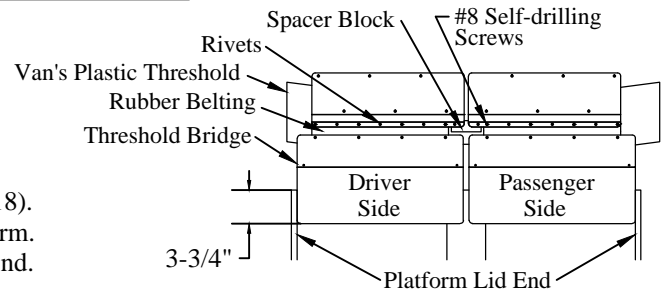

Figure 18: Threshold bridge location.
- Position** the driver side threshold bridge across the threshold (Figure 18).
- Install** the threshold bridge spacer block under the threshold bridge (Figure 18).
- Attach** the driver side threshold bridge to the van floor using the supplied ten (10) #8 x 1-1/4" or 2" self-drilling screws.
- Position** the passenger side threshold bridge using the spacer block (Figure 18).